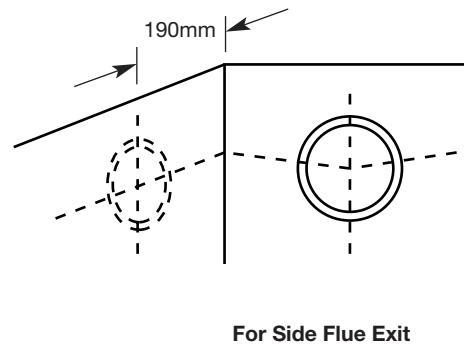

Fig. 18
2. Mark the position of the two most suitable fixing slots for the wall plate and boiler lower fixing holes. It is preferable to use the horizontal fixing slots. For side flue exit, mark as shown (Fig. 18).